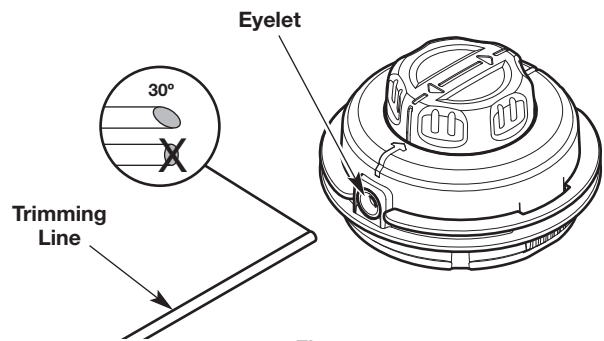
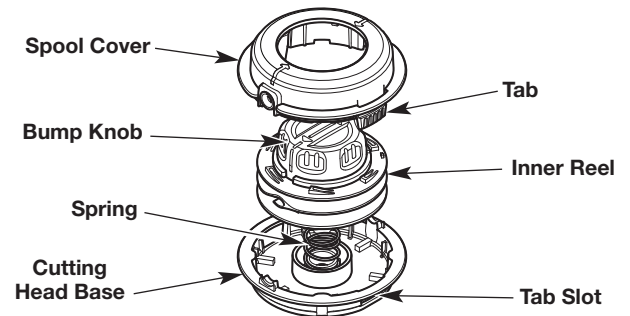

Fig. 17
Fig. 20
- Cut two 10-foot (3.0 m) lengths of new trimming line. Cut one end of each line at a 30 degree angle (Fig. 17).
- Insert one of the lines into an eyelet on the cutting head (Fig. 17). Use the angled end and push the line in about 3 inches (7.5 cm). Repeat this process with the other line and remaining eyelet.
- c. While holding the screwdriver in place, gently twist the screwdriver to unlock the tab from the tab slot (Fig. 20).
- d. Remove the spool cover (Fig. 20). **DO NOT** remove the spring from the cutting head base (Fig. 20).
- e. Push the bump knob through the spool cover. (Fig. 20). If the eyelets come off, reinsert the eyelets on the spool cover (Fig. 17).
- NOTE: DO NOT** separate the bump knob from the inner reel (Fig. 20).
- g. Use a clean cloth to clean the inner reel, cutting head base and spool cover (Fig. 20).
- h. Insert the bump knob and inner reel into the spool cover (Fig. 20).
- i. Align the tabs on the spool cover with the tab slots on the cutting head base (Fig. 20). Push the spool cover onto the cutting head base until the tabs securely snap into place.